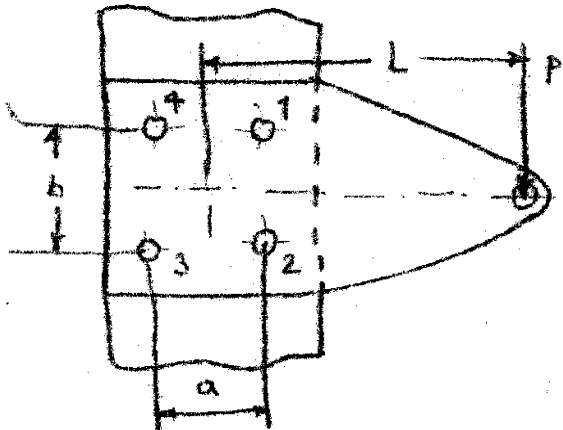

Figure 2
- b) A steel plate subjected to a force of P kN and fixed to a vertical channel by using four identical bolt as shown in figure 2. Write down the procedure to find out diameter of bolts.